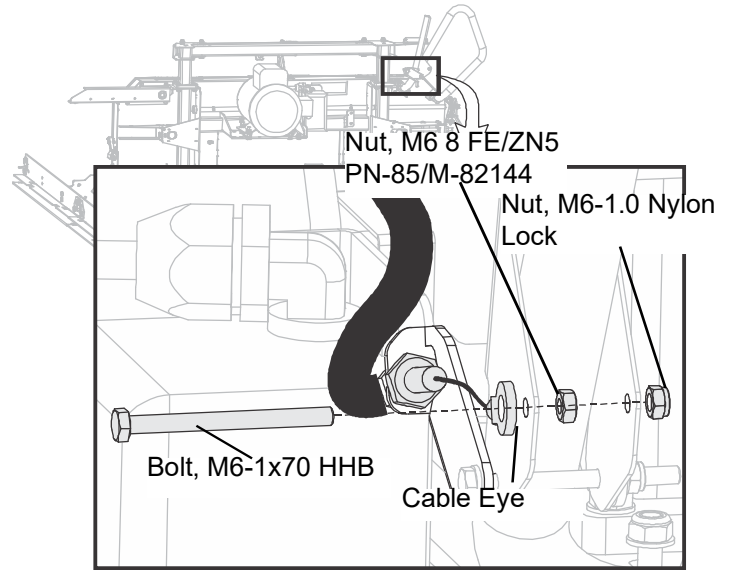

FIG. 3-28
6. Tighten the clutch cable in the bracket with a wrench. See FIG. 3-28.